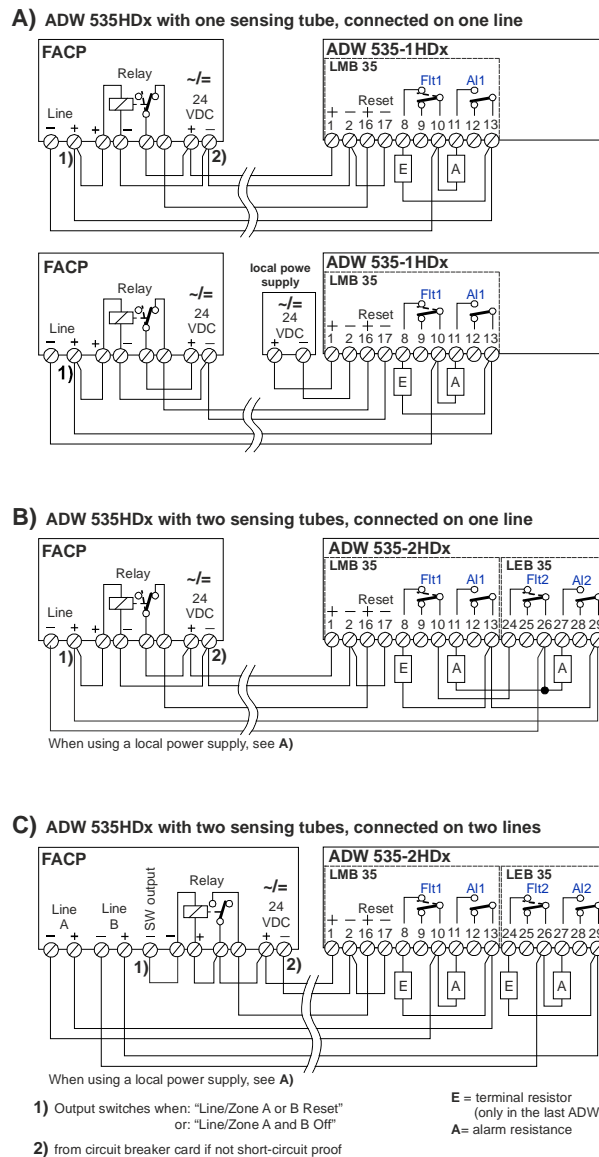

Fig. 26 Connection to zone detection
- For connection to zone detection lines, the control relay is usually actuated from the line plus. The condition, however, is that the line plus also switches for “Zone On/Off” and “Reset” (see Fig. 26, C for an exception).
- Connection as shown in Fig. 26, B), is used exclusively when the FACP line is to operate with **2-detector dependency (V-AI / H-AI)** from sensing tube I and II. For that purpose the FACP line is programmed for 2-detector dependency. Both sensing tubes of the ADW then cover the **same monitored area**.
- When connecting as shown in Fig. 26, C), Alarm I and Alarm II can be evaluated in the FACP as independent zones from two independent monitoring areas. A **2-line dependency** can also be programmed in the FACP. Then the same applies as under B): both sensing tubes from a monitored area.
- If the connection as in Fig. 26, C) is used, the control signal for the reset input can no longer be picked up from the line plus; instead, a software output has to be created with the following programming: